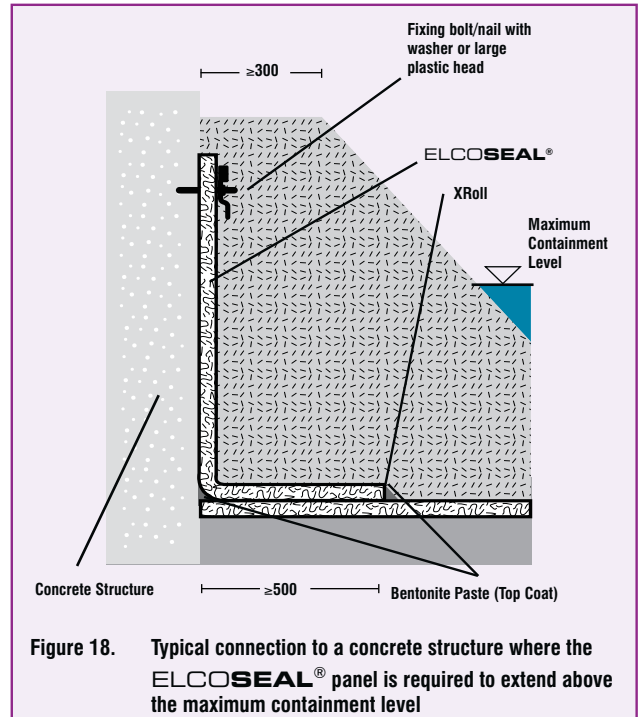

Figure 18. Typical connection to a concrete structure where the ELCOSEAL® panel is required to extend above the maximum containment level
- Attachment and sealing against concrete structures, can be achieved according to Figure 18. This typical connection is appropriate where the structure needs to be waterproofed to a height above the maximum containment level. Temporary fixing of the vertical ELCOSEAL® panel to the structure (as shown) may be required to allow the backfill placement.